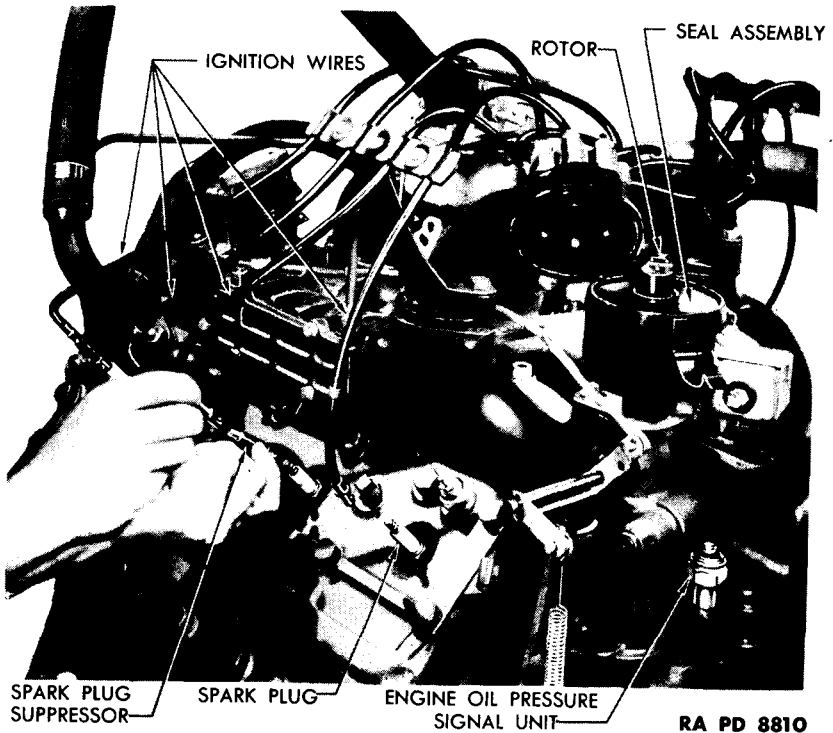

Figure 56 — Removing Spark Plug Suppressors
a. **Removal of Complete Ignition Wiring Harness.** Open engine compartment rear doors and bulkhead doors. Disconnect spark plug wires at suppressors (fig. 56). Disconnect wires at distributor cap and coil. Remove screws at straps on support, loosen straps, and remove wires.